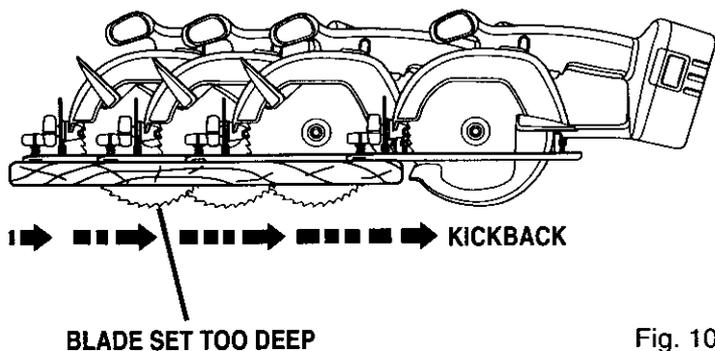

Fig. 10
See Figure 10.
- Incorrect blade depth setting. See Figure 10.